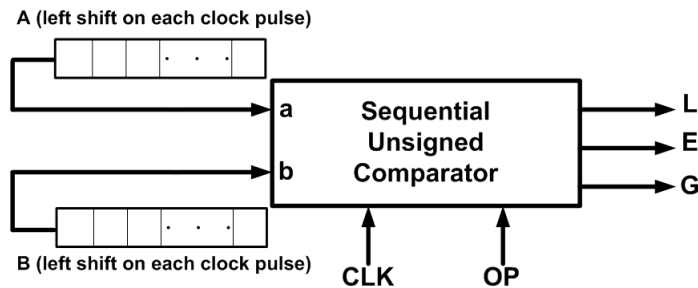

Figure 2: Sequential unsigned comparator schematic.
4. **[Sequential Unsigned Comparator]** Consider the task of designing a sequential circuit that can compare two unsigned integers A and B , each of which is 32-bit long. The block-level schematic is shown in Fig. 2, where in every clock cycle, the circuit serially reads one bit each of A and B **from their MSB sides** at its input ports a and b respectively, and performs state transition of an internal finite state machine (FSM). In every clock cycle, the contents of the registers containing A and B are left-shifted. The circuit has three output lines L , E and G , exactly one of which becomes logic-1 at the end of the session indicating the result. Thus, if $A < B$, then $\{L, E, G\} = 100$; if $A = B$, then $\{L, E, G\} = 010$; if $A > B$, then $\{L, E, G\} = 001$. For simplicity, assume that the machine is in an initial all-zero (reset) state before the beginning of the session (the reset signal has not been shown in the above schematic), and the input control signal OP is at logic-0; as long as OP remains at logic-0, $L = E = G = 0$. At the end of the session (i.e., after the arrival of least significant bits), OP flips to logic-1, indicating the end of the operation, and that the values of L , E and G are now ready to be read.